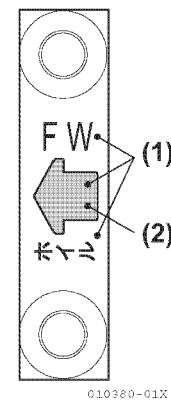

Figure 5-132
- The main bearing cap should be mounted with the arrow on the cap pointing toward the flywheel. Ensure the cylinder alignment number is correct (Figure 5-132).